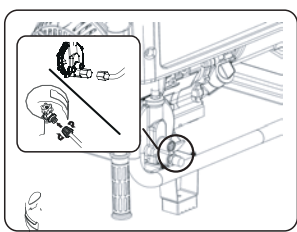

Fig 8
- Connect the PROPANE hose to the PROPANE tank then to the generator; Open the PROPANE valve on the tank. (See fig 8)